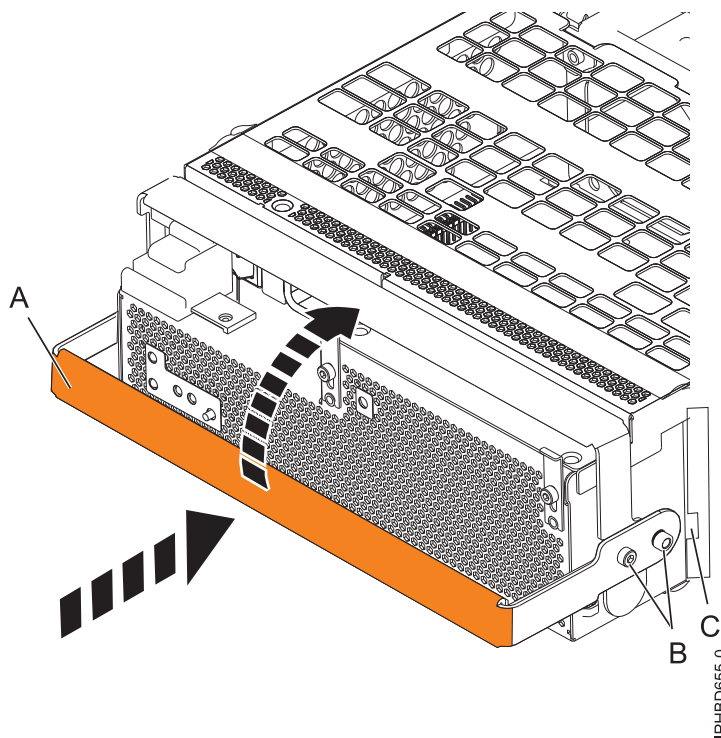

Figure 18. Replacing a power supply
6. To replace the power supply, with the locking handle (A) in the open position, push the power supply into the expansion unit as shown in Figure 18.